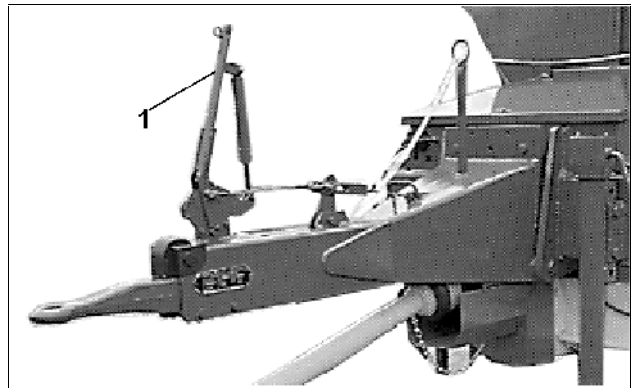

Fig. 21
- Before the ZG-B is uncoupled from the tractor, the brake (Fig. 21/1) must first be applied..